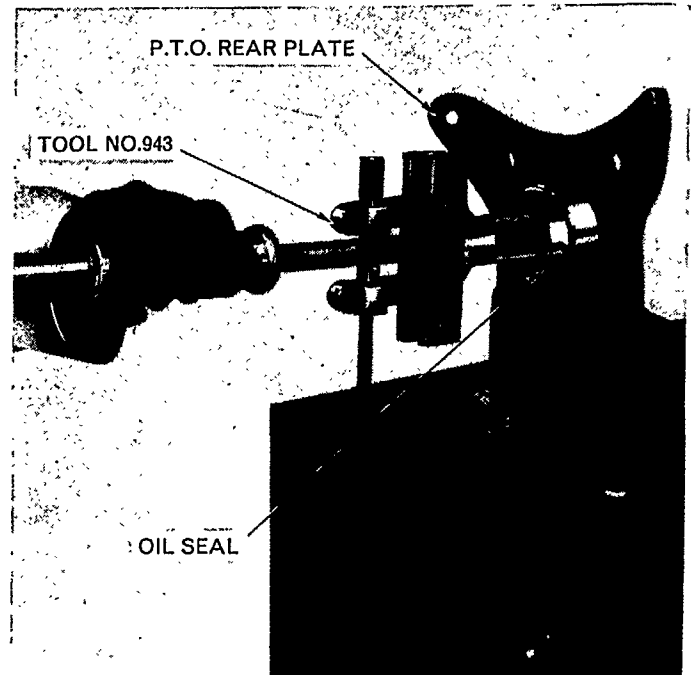

Figure 18
7. Remove the oil seal from the cover using Tools 943 and 943-S, Figure 18.